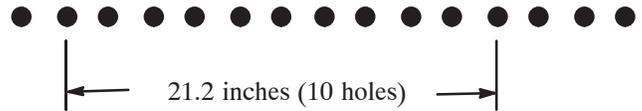

Figure 60
21.2 divided by 10 is 2.12, hole spacing is long by .12 inch from nominal (Fig. 60).